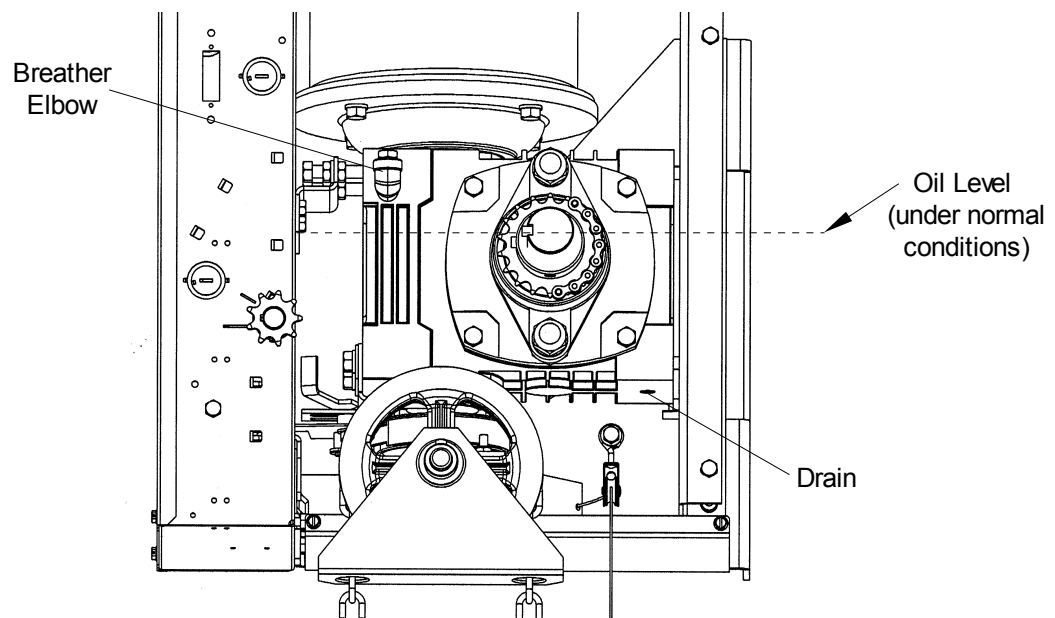

Figure 39 - Gear Reducer Breather
1. Unfasten and remove the breather elbow, refer to Figure 39.